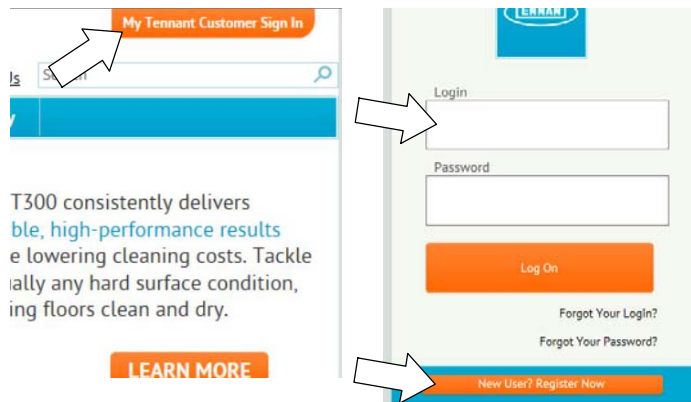

Fig. 35
1. Log in to the “My Tennant” website or register as a new user (Figure 35).